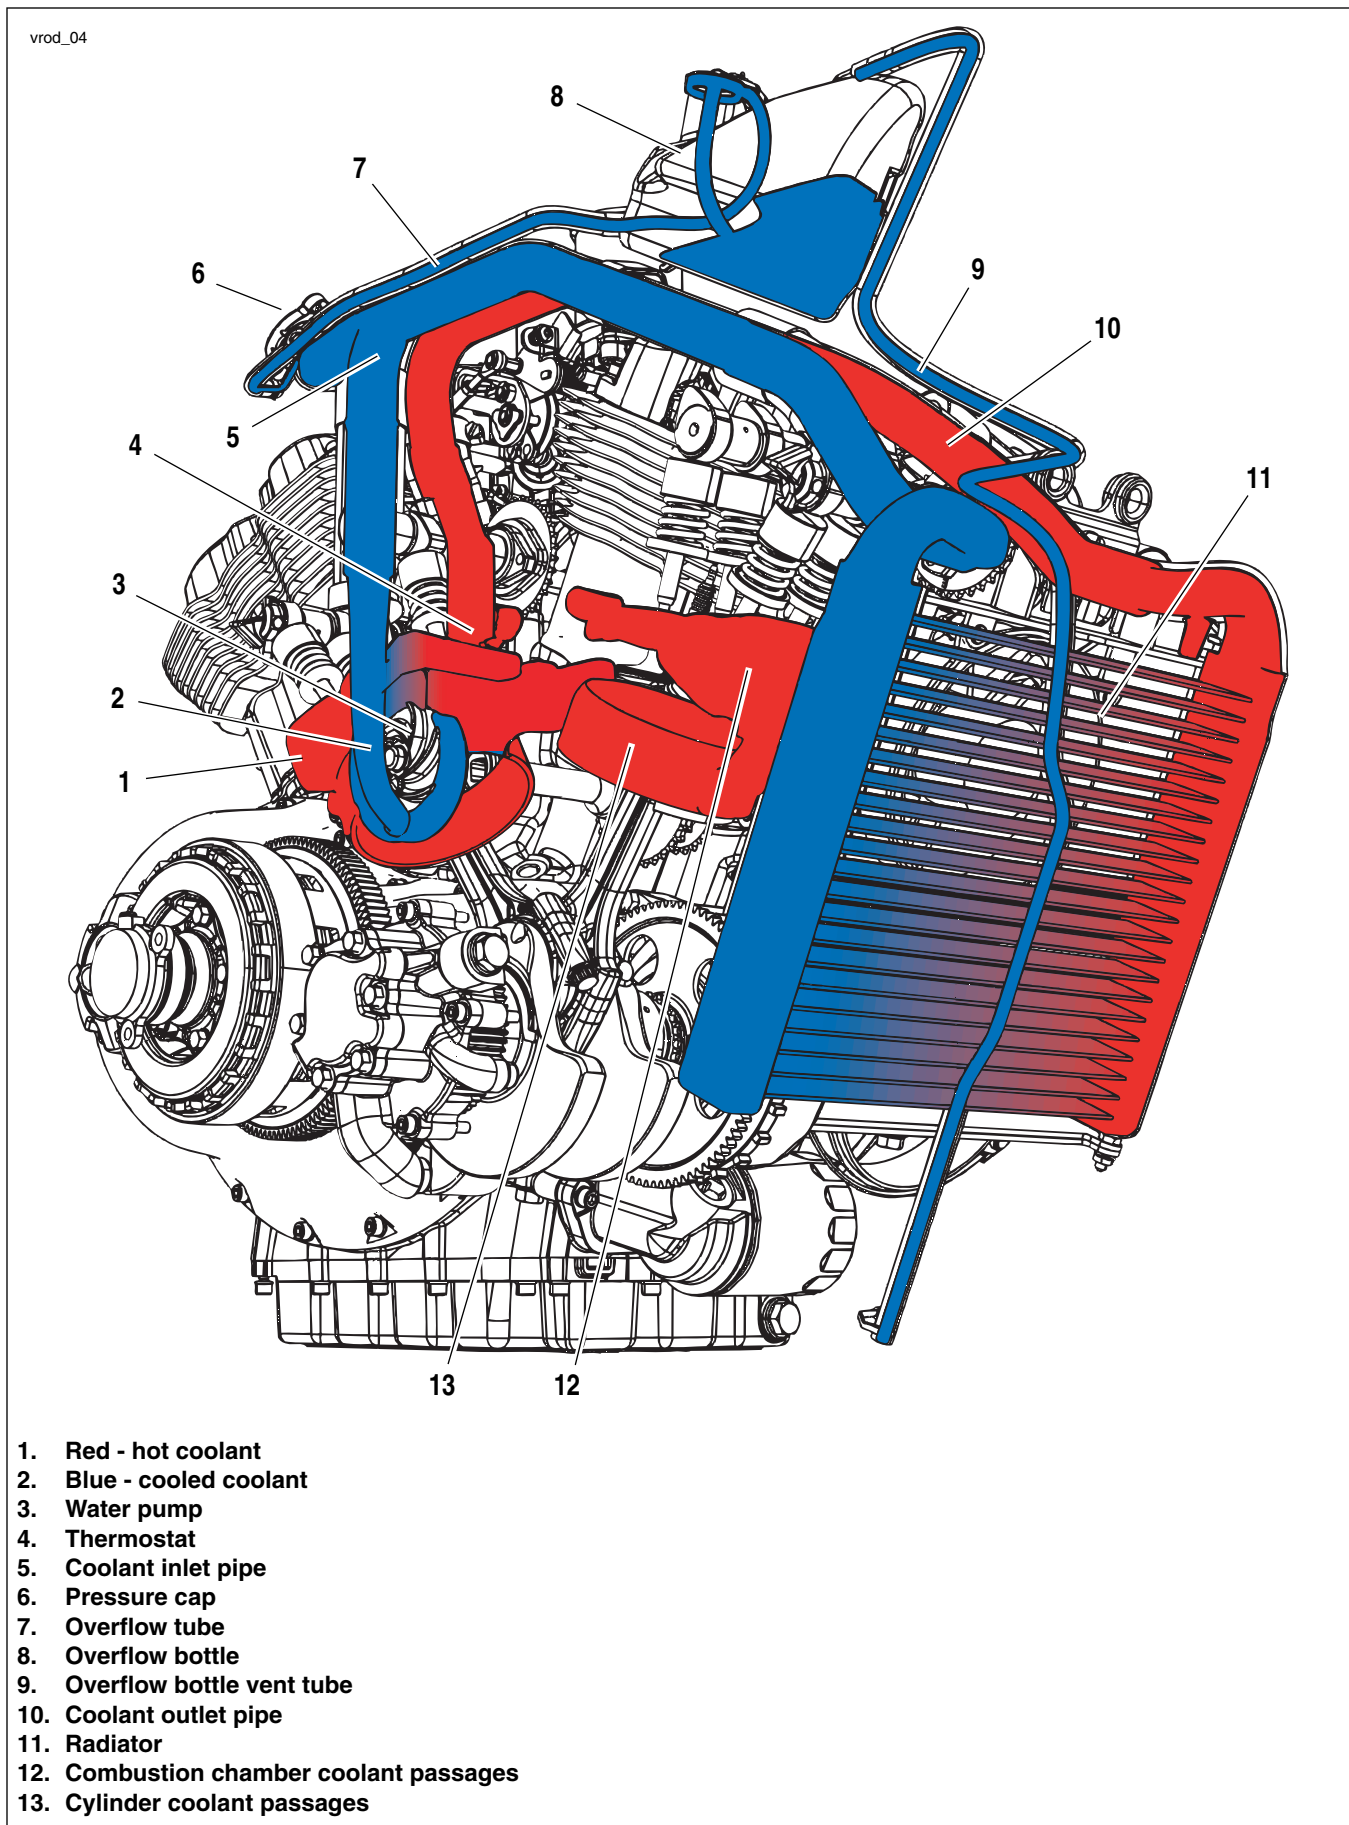

Figure 6-1. Engine Coolant Flow
See Figure 6-1. To warm the engine up quickly, the ethylene-glycol coolant is re-circulated through the cylinders (13) and combustion chamber (12) in the cylinder heads. The thermostat (4) blocks the passage to the radiator (11) to recirculate the coolant.